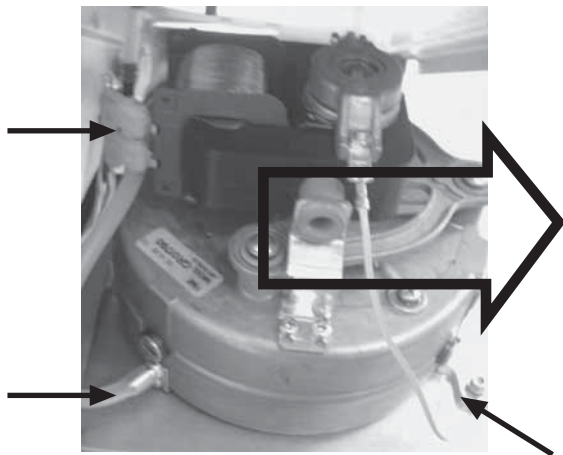

Figure 28
17.7 Disconnect the electrical leads and air pressure switch connection tube from fan, remove the screws of fan and withdraw fan from fan hood with 56° bend. (Figure 28)